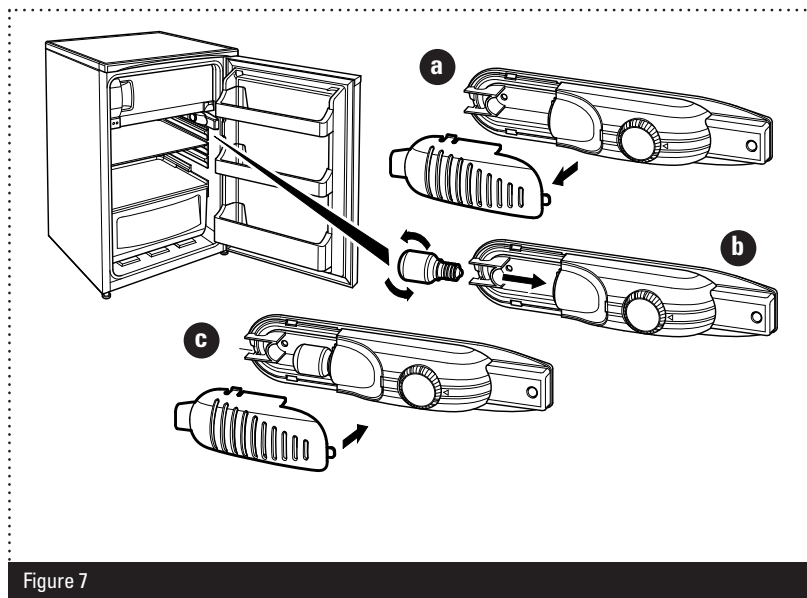

Figure 7
- 2 Apply light pressure to the sides of the light cover and carefully pull downwards. (Figure 7 **a**).
- 3 Unscrew the bulb by turning it clockwise, and remove (Figure 7 **b**).
- 5 Re-fit the light cover, by pushing it upwards it until it clicks back into position (Figure 7 **c**).